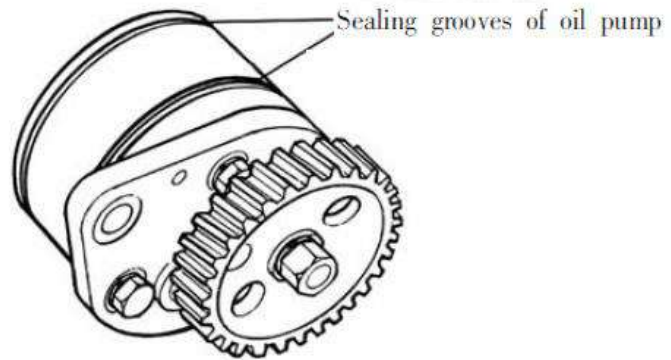

Fig 5-35 Sealing Grooves of Oil Pump
4.2 Insert O -ring before installing oil pump, coat some oil on pump, tighten bolts, move gear freely without block (see Fig 5-35).